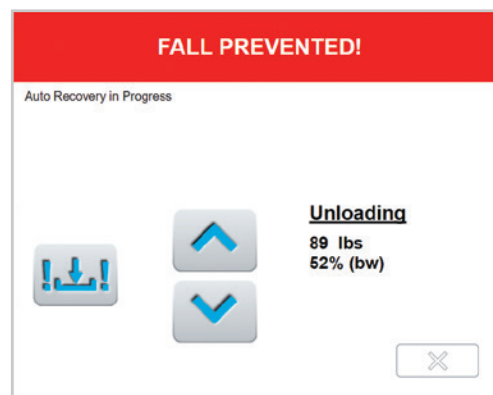

Figure 5-19: Fall Prevented Window
7. To activate Trolley Tracking, apply at least 10 lbs. (4.5 kgs.) of load by using the manual Manual Controls to winch the Support Rope and Spreader Bar, and press the Trolley Tracking button. The button will change from green to red. See Figure 5-19.
8. To activate Dynamic Body Weight Support, press the DBWS button. The button will change green to red indicating that the feature is turned on. See Figure 5-19.
If a fall is detected while Auto Recovery is enabled, a Fall Prevention window will be displayed indicating that Auto Recovery is in progress. See Figure 5-19.